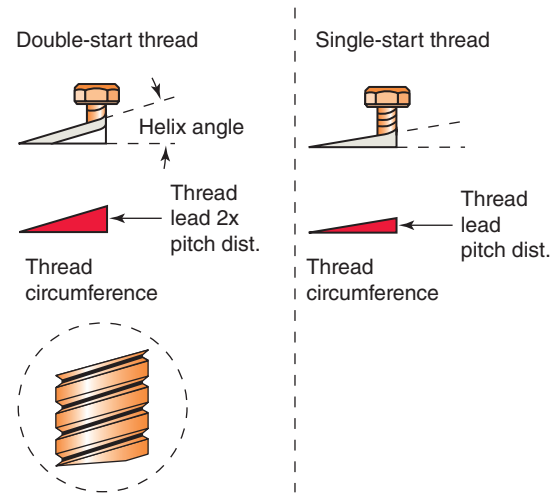
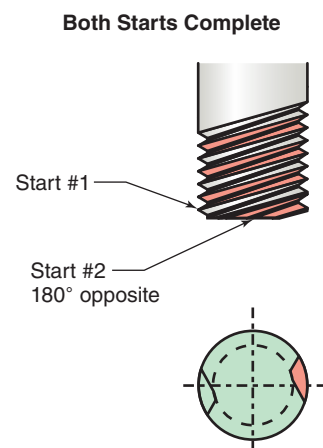

Figure 14-20 A double-start thread has two separate helical grooves. Only one groove has been machined in the magnified view.
Figure 14-21 Both thread helices are now machined on this double-start thread.
A double-start thread translates twice the pitch distance in one revolution compared to a single-start thread. Look at Fig. 14-20 to see a double-start thread not yet complete. As yet, it has only the first thread groove completed. Notice the blank space between grooves, ready for the second start. Then in Fig. 14-21, it's finished with both grooves. Placing an imaginary pencil in a groove, then tracing it one full turn of the
9. True or false? The difference in helix angles between a single- and double-start thread of the same diameter and pitch is that the double-start thread is greater (larger). See Fig. 14-20. If it is false, what will make it true?